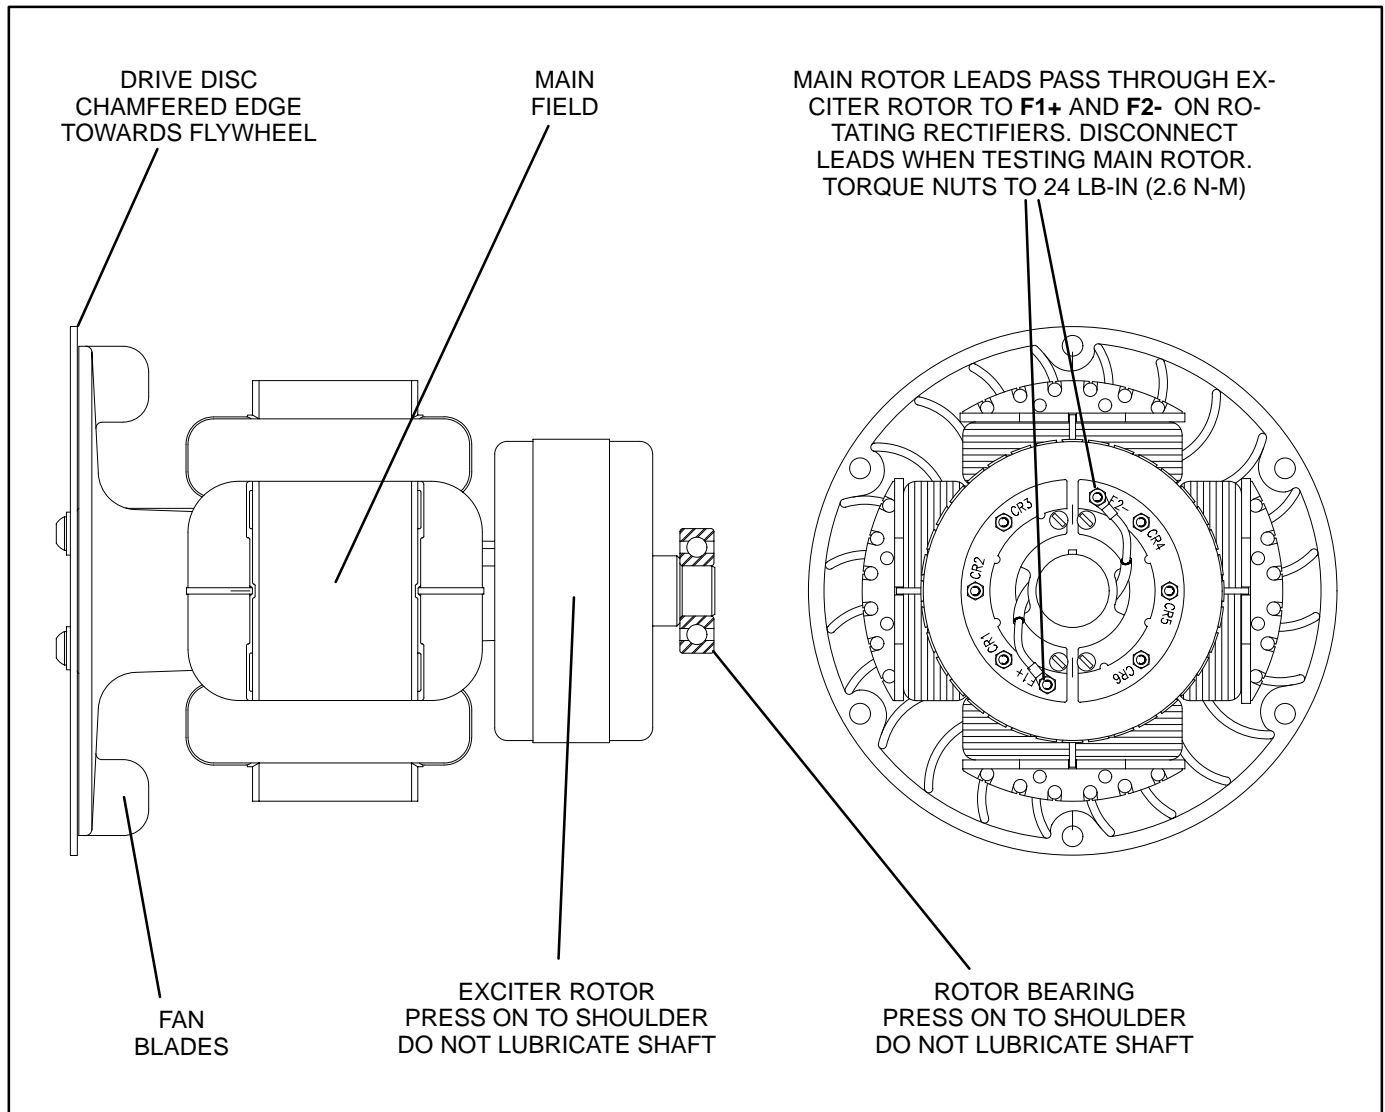

FIGURE 20. ROTOR ASSEMBLY
9. Use a gear puller to remove the rotor bearing or exciter rotor (Figure 20).
1. Press a new exciter rotor or rotor shaft bearing on up to its locating shoulder on the shaft. Do not lubricate the shaft (Figure 20).